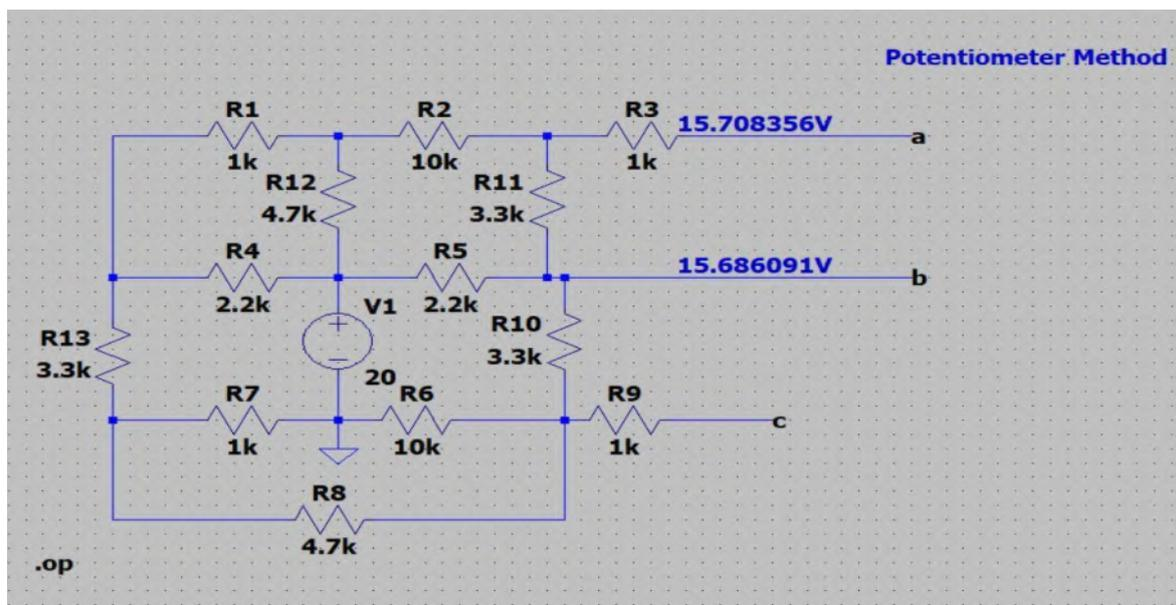

Figure : 1
- 1) Construct the circuit as shown in figure 1 in a new schematic.